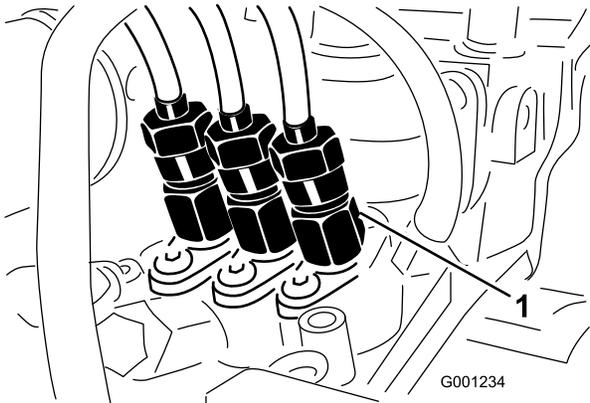

Figure 52
1. Loosen the tube nut at the No. 1 injector nozzle and holder assembly at the injection pump (Figure 52).